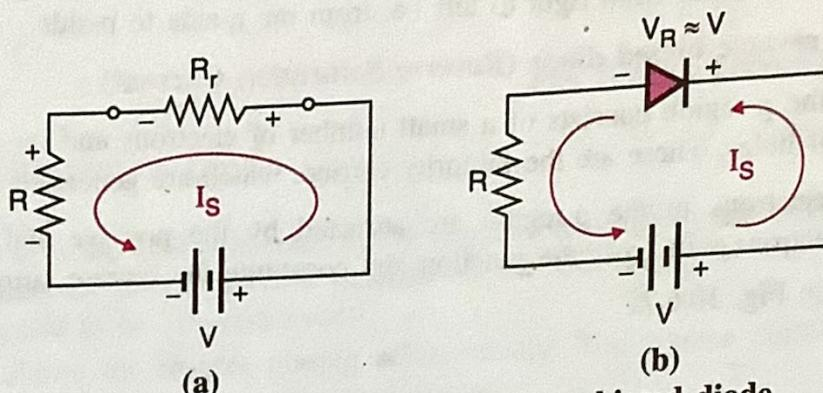

Fig. 10.6.8 : Voltage across reverse biased diode
- The reverse biased diode is equivalent to a large value resistor. It forms a potential divider with the current limiting resistance R , across the external voltage V , as shown in Fig. 10.6.8(a).
- Thus the reverse voltage is approximately equal to the applied voltage and its polarity is as shown in Fig. 10.6.8(b).